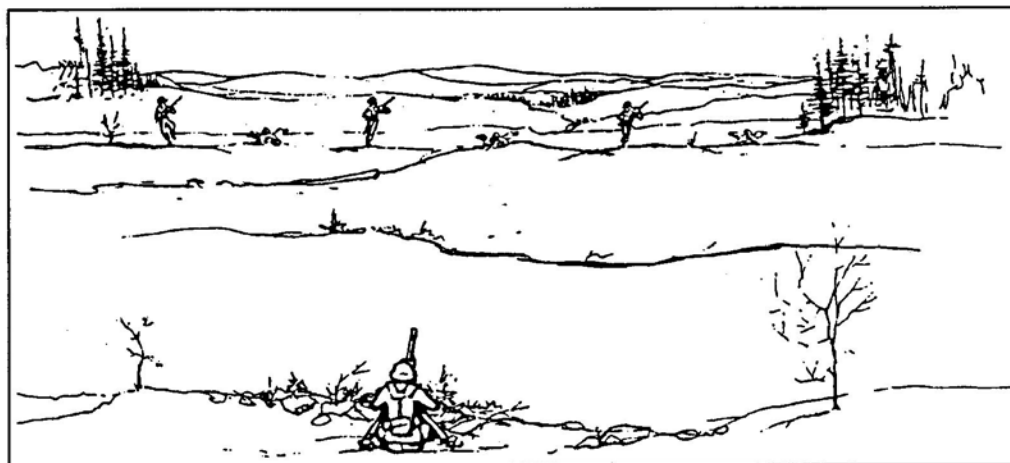

Figure 8. Linear target.
- (2) Linear target. Initially aim just outside of either flank and fire. Traverse fire back and forth from flank to flank, covering the entire target area (Figure 8).